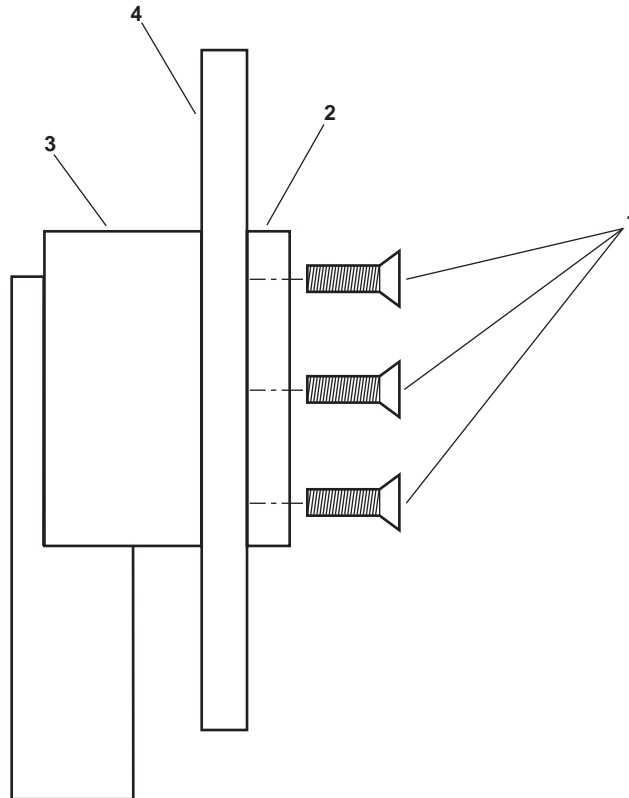

Figure 4. Handle
2. Remove the three screws (figure 4, item 1) securing the retaining ring (figure 4, item 2) and remove the retaining ring.
3. Remove the handle (figure 4, item 3) from the enclosure door (figure 4, item 4).
1. Position the handle (figure 4, item 3) in the enclosure door (figure 4, item 4).
2. Secure the handle (figure 4, item 3) with the retaining ring (figure 4, item 2) and three screws (figure 4, item 1).